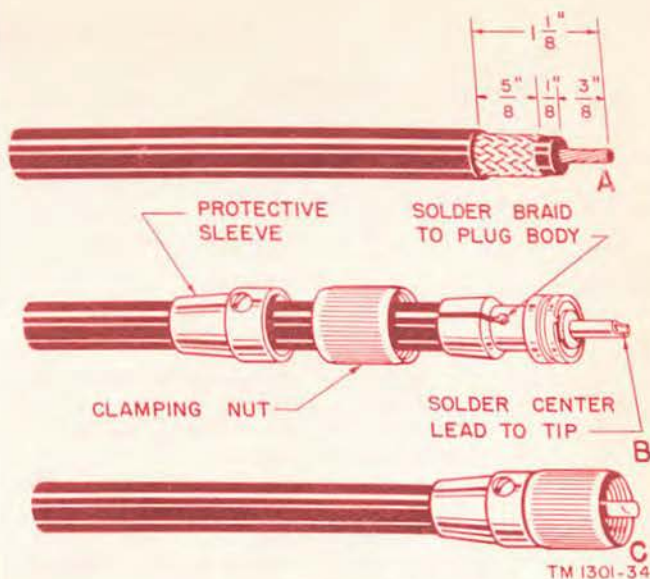

Figure 115. Repair of coaxial cable.
b. Prepare the cable for connection to the plug body (A, fig. 115).
c. Before inserting the cable into the plug body, tin the center lead and slide the clamping nut and the protective sleeve onto the cable (B, fig. 115).
d. Insert the cable into the plug body and solder the center lead to the conductor tip. Solder the metal braid to the plug body (B, fig. 115).
e. After the plug body has been soldered to the cable, put the clamping nut and the protective sleeve in place and tighten the setscrew in the protective sleeve (C, fig. 115).